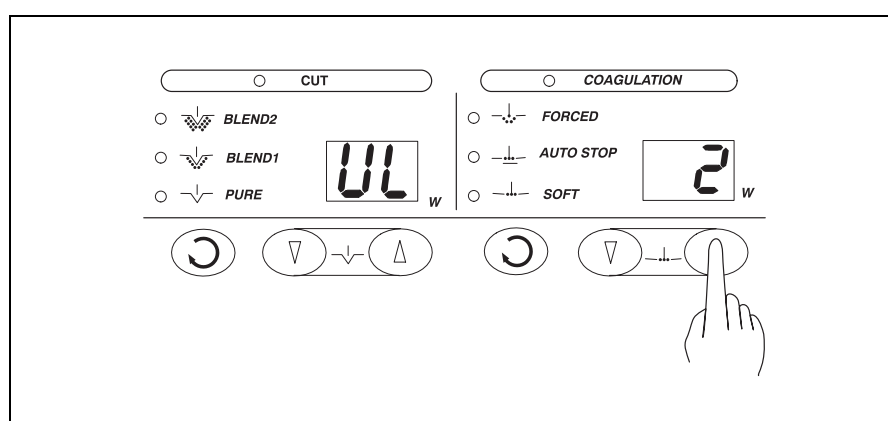

Figure 5.13
3. Press the "▲" segment of the output control button on the COAG. side to increase the displayed number (see Figure 5.13). Press the "▼" segment to decrease the displayed number.